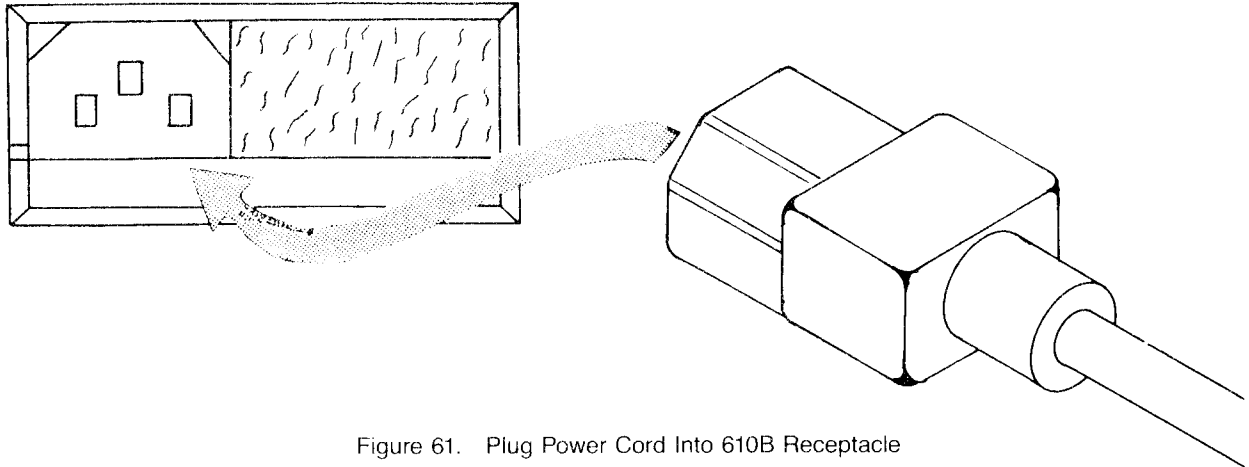

Figure 61. Plug Power Cord Into 610B Receptacle
- c. Plug the female connector on the AC power cord into the AC power receptacle on the rear panel of the 610B (see Figure 61).